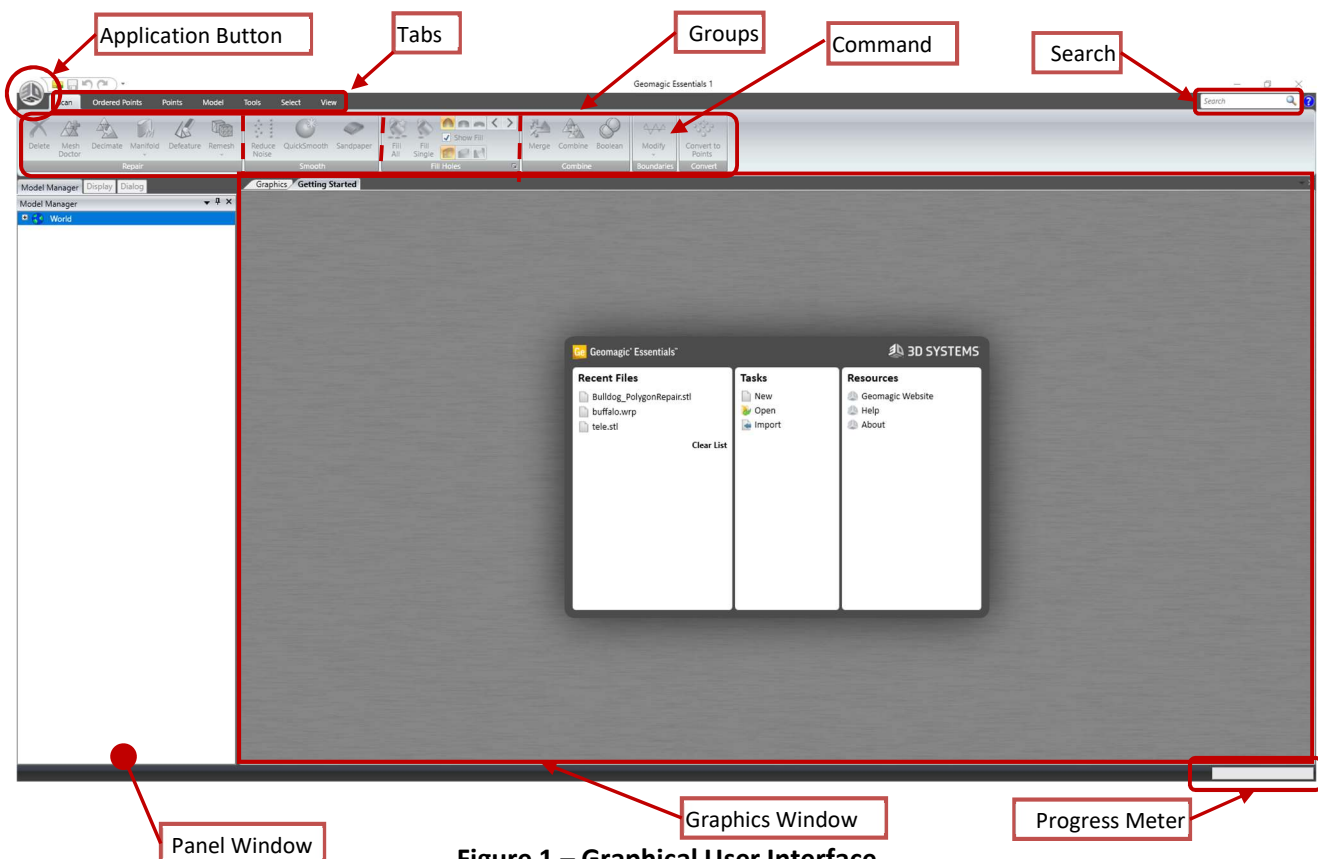

Figure 1 – Graphical User Interface
2. From the **Desktop**, double-click the **Geomagic Essentials** icon to start the application. The application will start as shown in **Figure 1**.